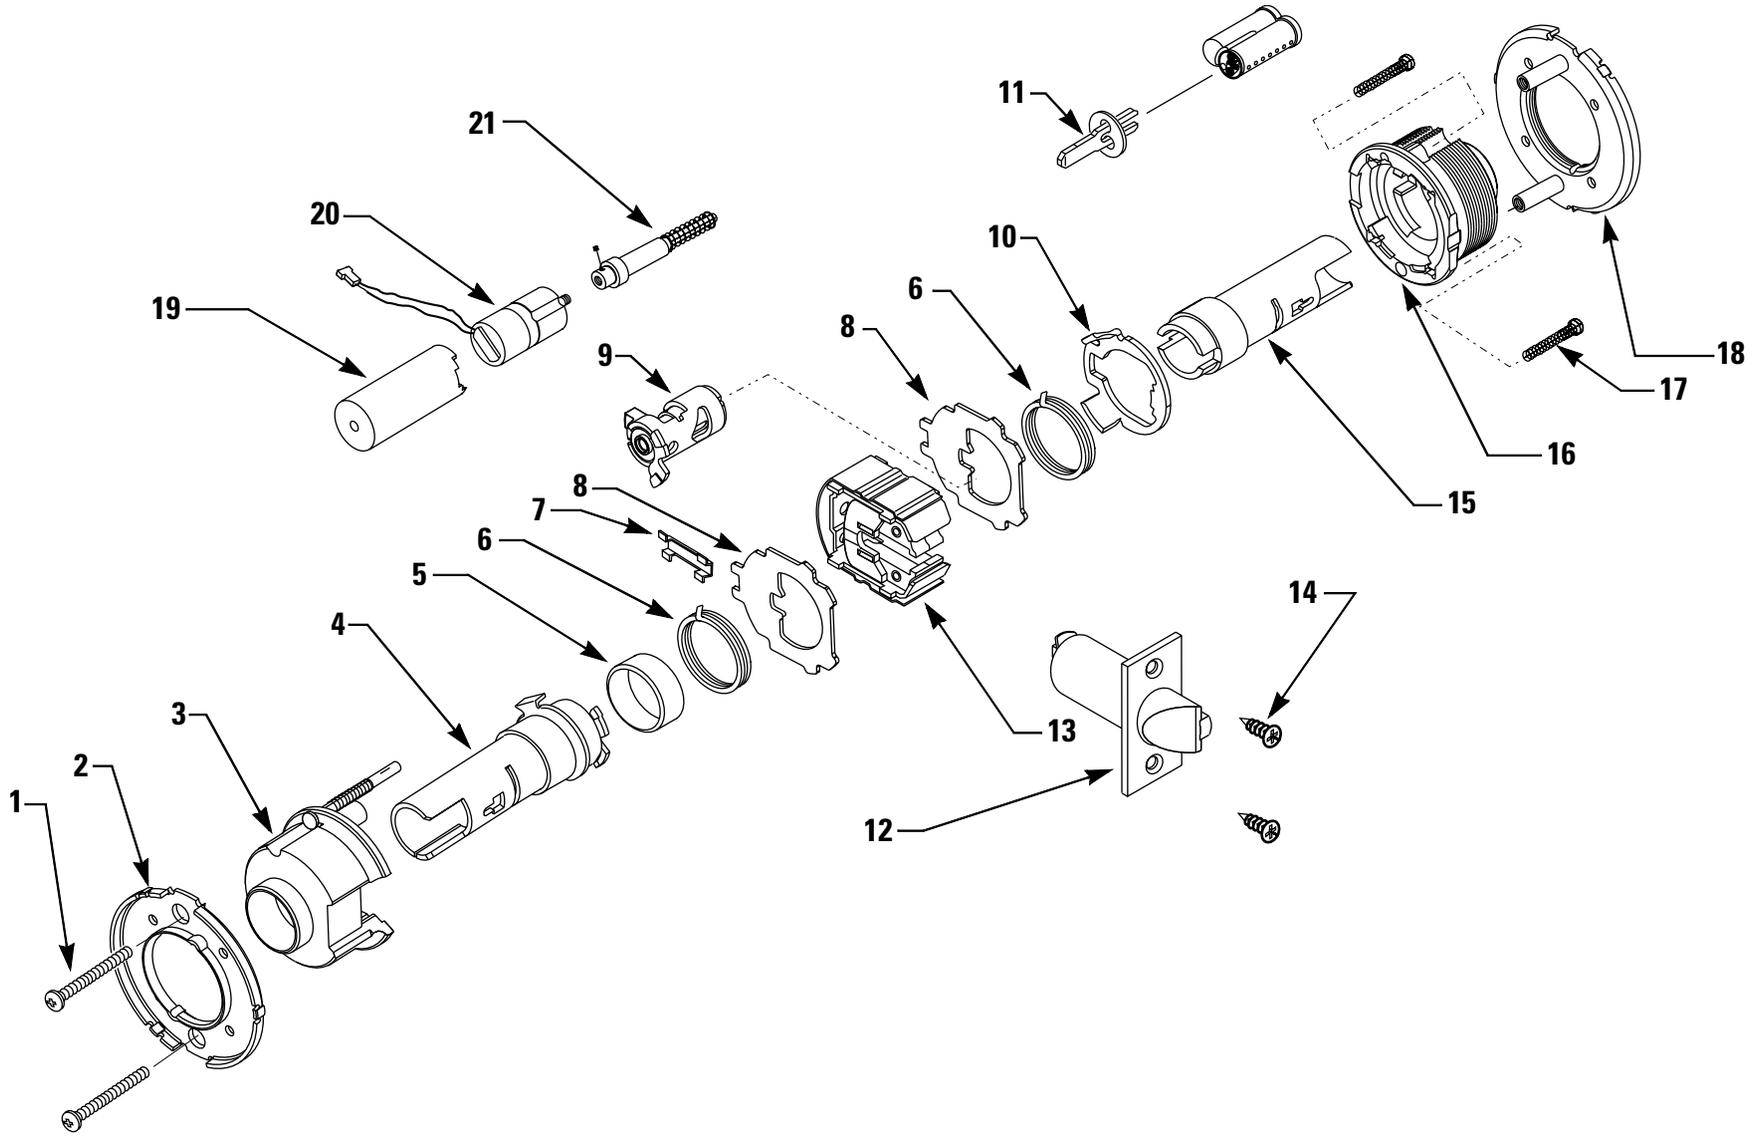

Figure 2.4 8KV/9KV chassis exploded diagram
b. For 8KV/9KV chassis parts, see Figure 2.4.
Refer to Figure 2.4 and the table below to find the part you need.